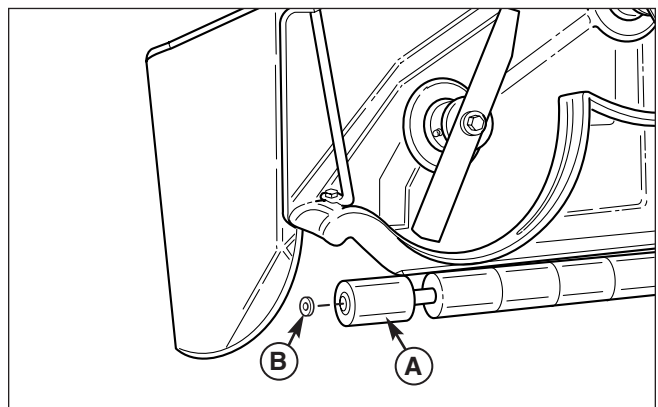

Figure 22. Install Right Side Pushnut and Roller
9. **Models With Rollers** - Install the roller (A, Figure 22) and 5/8 pushnut (B) from the right side of mower deck as shown.